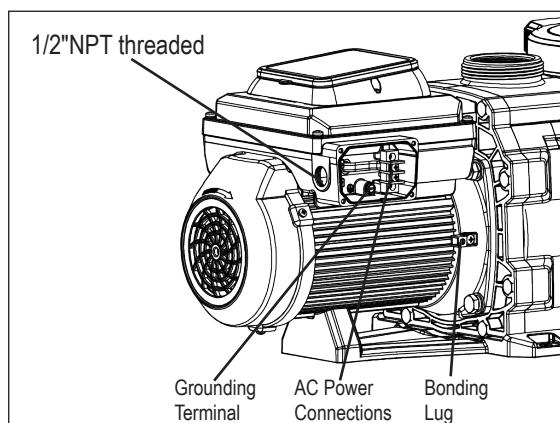

Figure 4
The pump accepts 230V, 50, or 60Hz single phase input power. The terminal block connections are capable of handling up to 12AWG solid or stranded wire. There are also fast-on type quick connectors, however, check the local electrical codes for the desired connection method. The connections must be permanently made to the grounding terminal (see Figure 4) in the field wiring compartment according to the local electrical code.
1. Be sure all electrical breakers and switches are turned off before wiring motor. Always wait five (5) minutes after disconnecting the power from the pump before opening or servicing the drive.
5. Permanently ground the motor using the ground screw located on the inside rear of the controller interface (see Figure 4). Use the correct wire size and type specified by the current National Electrical Code. Be sure the ground wire is connected to an electrical service ground.
6. Bond the motor to all metal parts of the pool structure and to all electrical equipment, metal conduit, and metal piping within 5 feet (1.5 M) of the inside walls of the swimming pool, spa or hot tub in accordance with the current National Electrical Code. UL requires use of a solid copper bonding conductor not smaller than 8 AWG. See Figure 4.